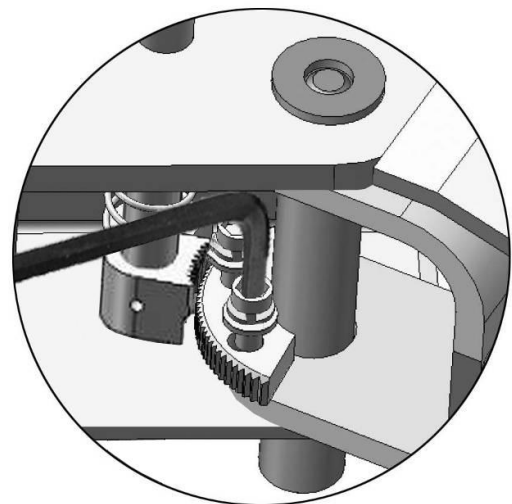

Fig. 24
2. Lowering the carriages down to the lowest position, then use the 8# socket head wrench to loosen the socket bolt (**See Fig. 24**)